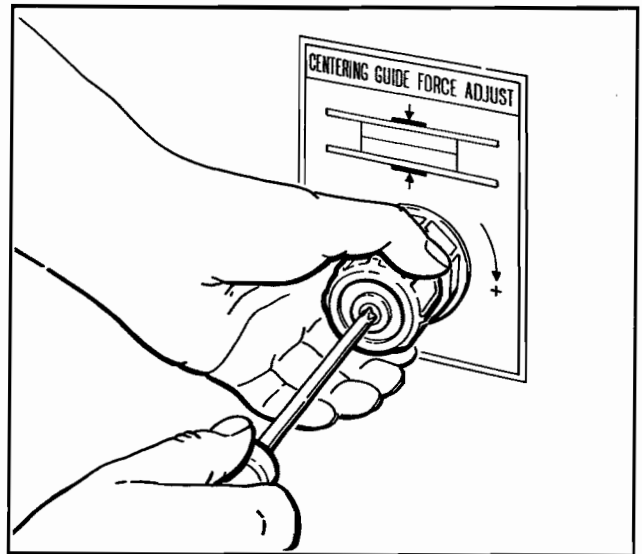

Figure 3-4— Air Regulator, Centering Guides
⑥ Air Pressure Regulator, Box Centering Guides Figure 3-4